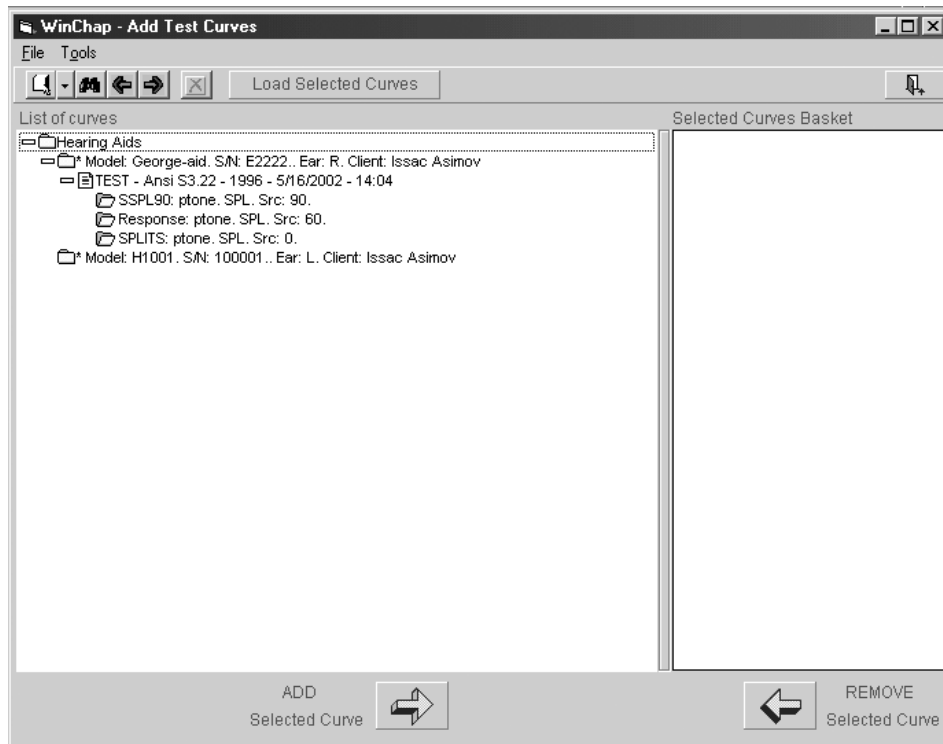

Figure 7.3.5—The Add Curves window
1. Click **Add Curves** in the Response Curves window. This will open the Add Curves window. See Figure 7.3.5.